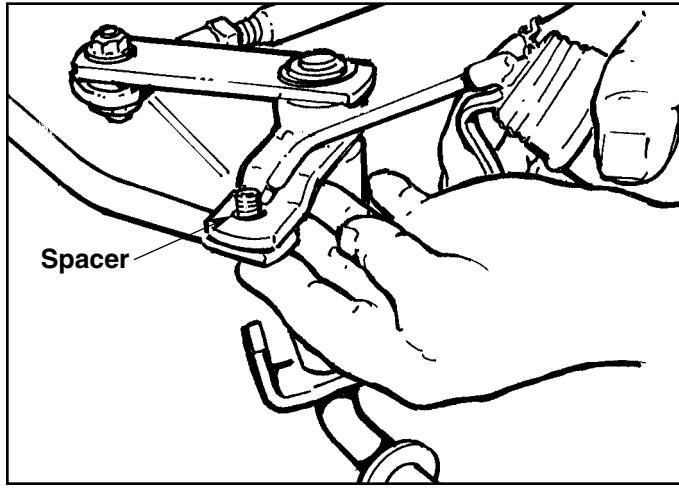

Figure A-17. Lubricate Tie Rod/Steering Arm Spacer
4. Reassemble the tie rod to the steering arms using new spacers or hardware if required. Before installing the flanged lock nut, squirt a few drops of SAE 30 weight oil around the spacer (Figure A-17).